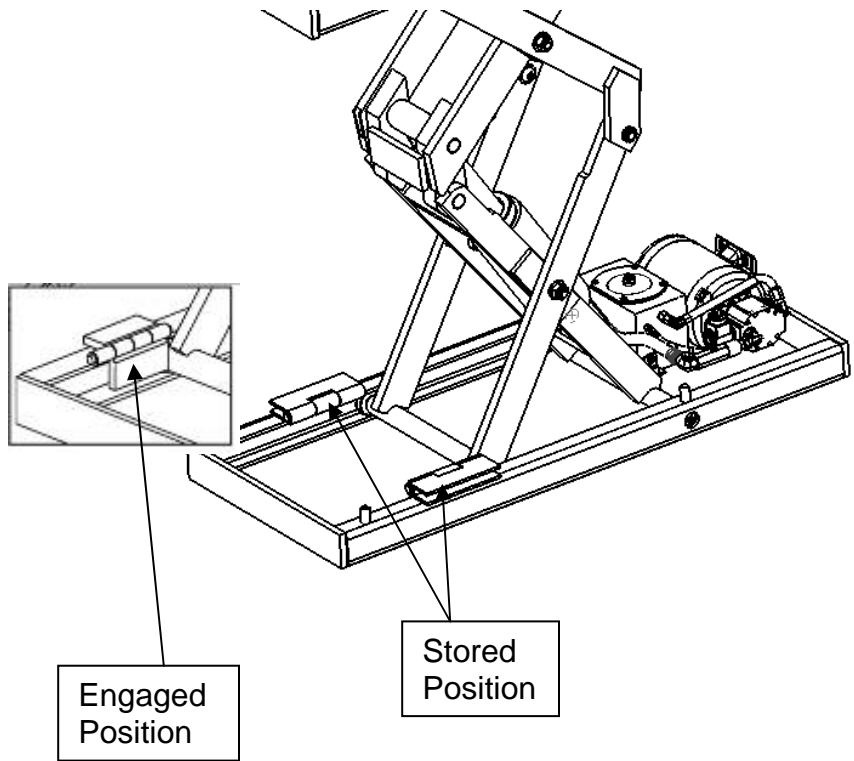

Figure 10: Typical Maintenance Devices
3. The lift will is provided with two (2) flip-in maintenance locks welded to the outside of the base frame. The locks must be flipped over and resting inside the base frame and thus in the roller path of the lift (**See Figure 10**).